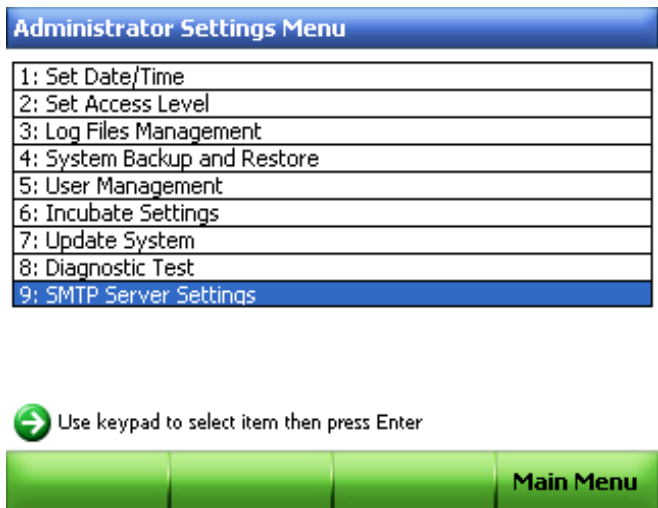

Figure 24. The Administrator Settings Menu.
- In the **Administrator Settings Menu**, select **9 (SMTP Server Settings)** as shown in Figure 24.